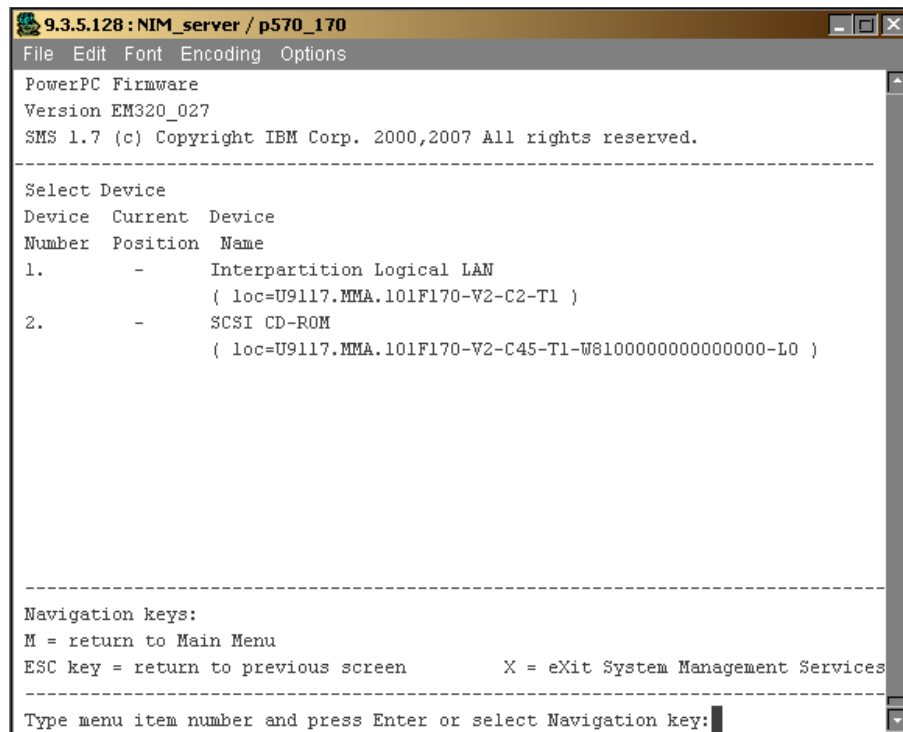

Figure 13-21 Setting the install device
12. It is useful to list all devices with option **8**. In Figure 13-21 you can see that no device is listed in Current Position.